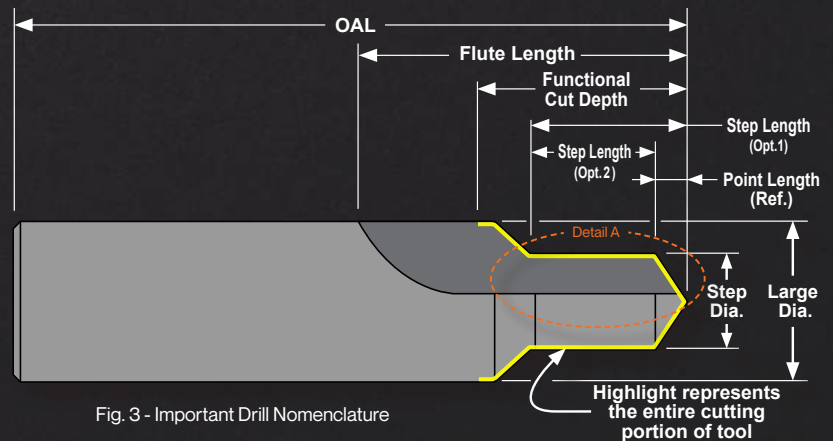

Fig. 3 - Important Drill Nomenclature
**Some Important Measurements** - Since we produce a large number of step drills for our clients, we felt it would be prudent to address several crucial issues related to our tools and drilling in general. Let's start by discussing the metrics and how they vary from end mill measurements (Fig. 3).
• **Cutting Depth** - The length of the cut and the functional cut depth are usually considered equal. All of our prints, as shown in Fig. 3, properly mark the area the tool is cutting (yellow in this example, bold on our prints). Please specify the exact dimensions, angles, and edges you intend to cut on any unique tool quote requests you make.